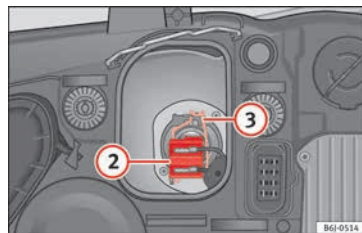

Fig. 100 Dipped beam headlights.
- Remove connector » **Fig. 100 2** from the bulb.
- Unclip the retainer spring » **Fig. 100 ③** pressing inwards to the right.